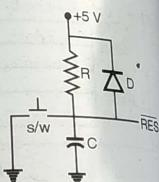

Fig. 11.10.3
- Fig. 11.10.3 illustrates power-on-reset circuit.